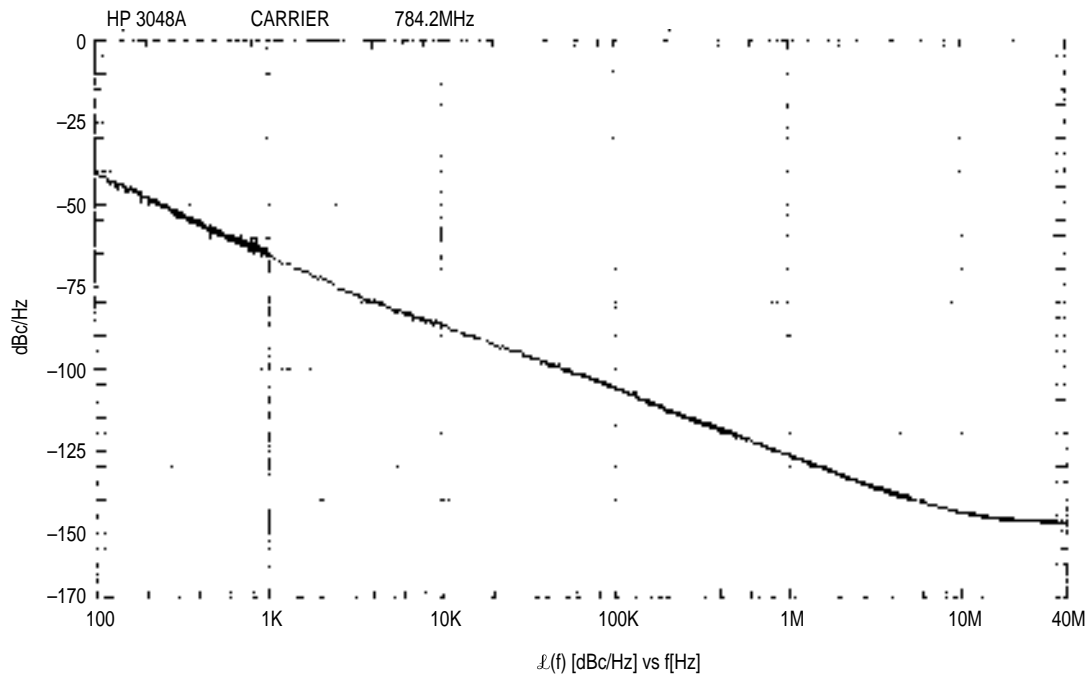

Figure 12. Typical Phase Noise Plot, 750MHz Tank
3. See Figure 12, 750MHz tank.